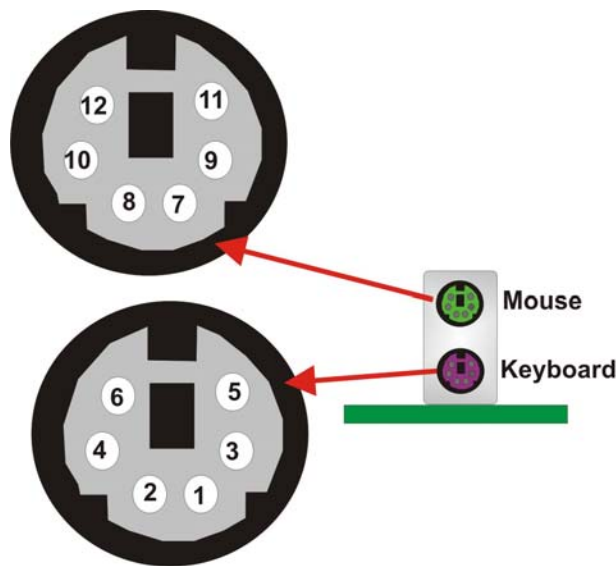

Figure 3-25: Dual PS/2 Pinouts and Configuration
- CN Pinouts: See **Figure 3-25**, **Table 3-30** and Table 3-31